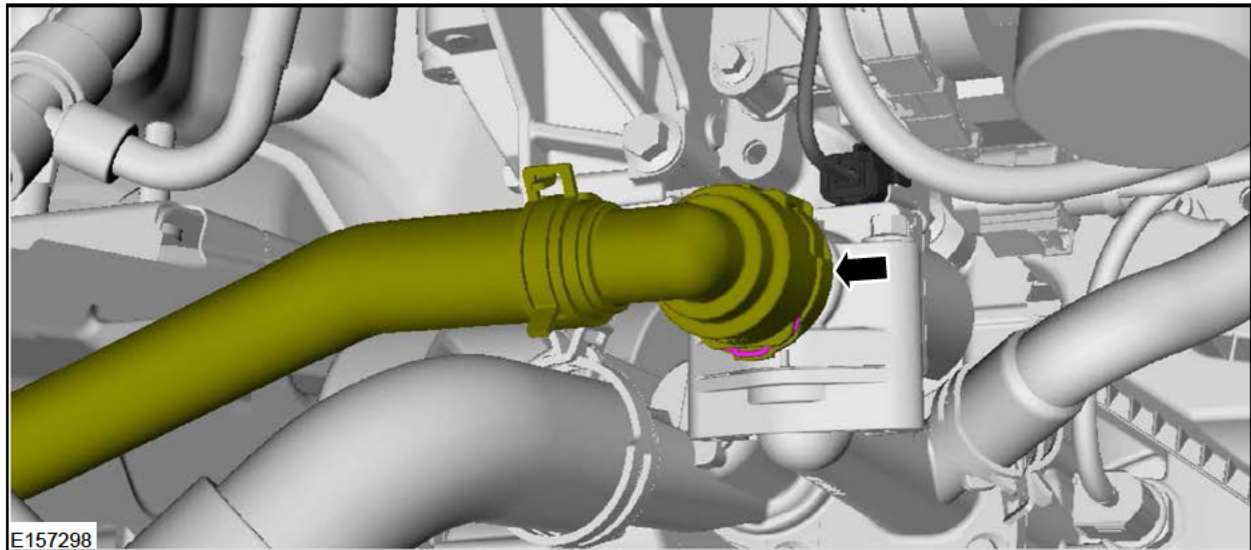

FIGURE I9
8. Connect the thermostat quick connect fitting to the thermostat housing. See Figure I9.